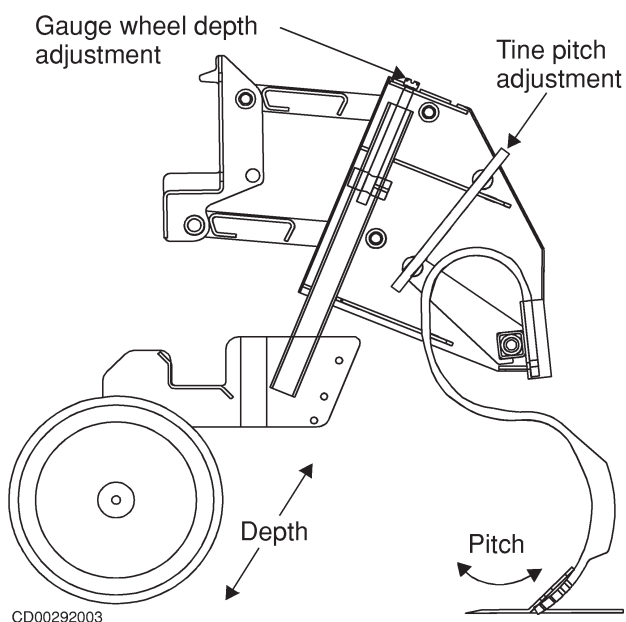

Figure 18 Gang Adjustment
4. Set tine pitch by adjusting tine pitch adjustment screw as shown in Figure 18.